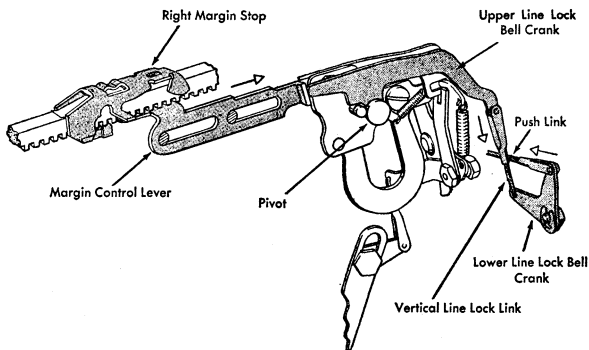

Figure 14. Line Lock Adjustment
1. **THE VERTICAL LINK** from the upper line lock bellcrank is adjusted so that the angle between the link and the arm of the lower bellcrank is approximately 90° (Figure 14).
2. **LINE LOCK PUSH ROD.** Adjust in the following manner (Figure 14).